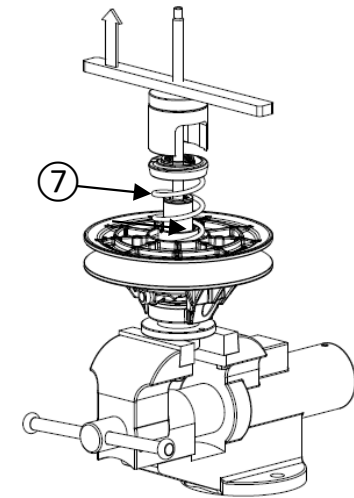

Figure 21
- Slowly unscrew the bar on the threaded rod to release the spring ⑦ tension (figure 21).